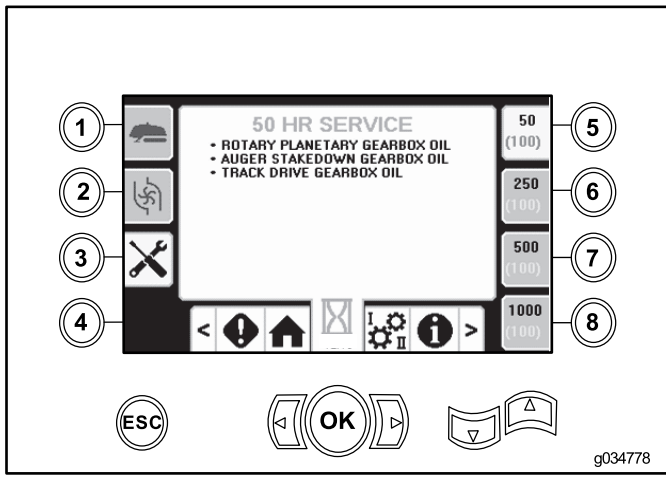

Figure 43
- Button 5—50-hour maintenance schedule (Figure 43)